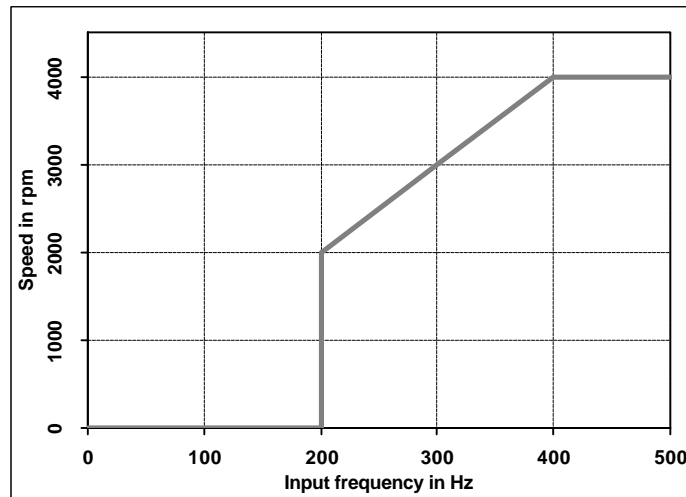

Figure 2: Speed control with external frequency signal
- The compressor speed then will be controlled according to the applied frequency, multiplied by 10, see figure 2 (e.g. 230 Hz will result in a speed of 2300 rpm).